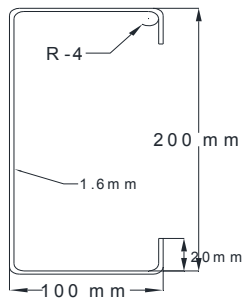

Figure-1
2. A two span fixed continuous beam of uniform cross section loaded with ultimate load as shown in figure-1. Determine the required plastic moment of resistance.
1. The built up two stiffened channel section of dimension shown in figure-1 are used as a simply supported beam to span about 6m long. Determine the deflection in the beam in the beam when the udl causes the max allowable moment at the mid span section. The maximum allowable moment is 512 kg-m.